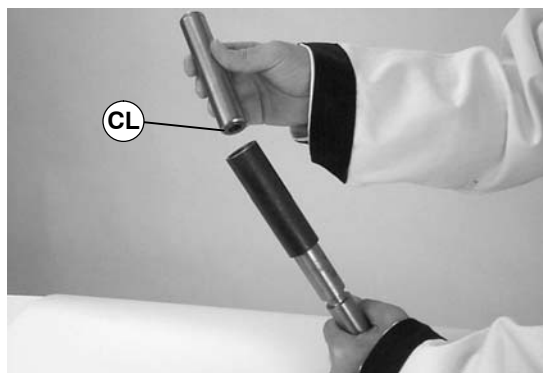

Figure 46
- Place open end of shaft (CL of Figure 46) into sleeve.